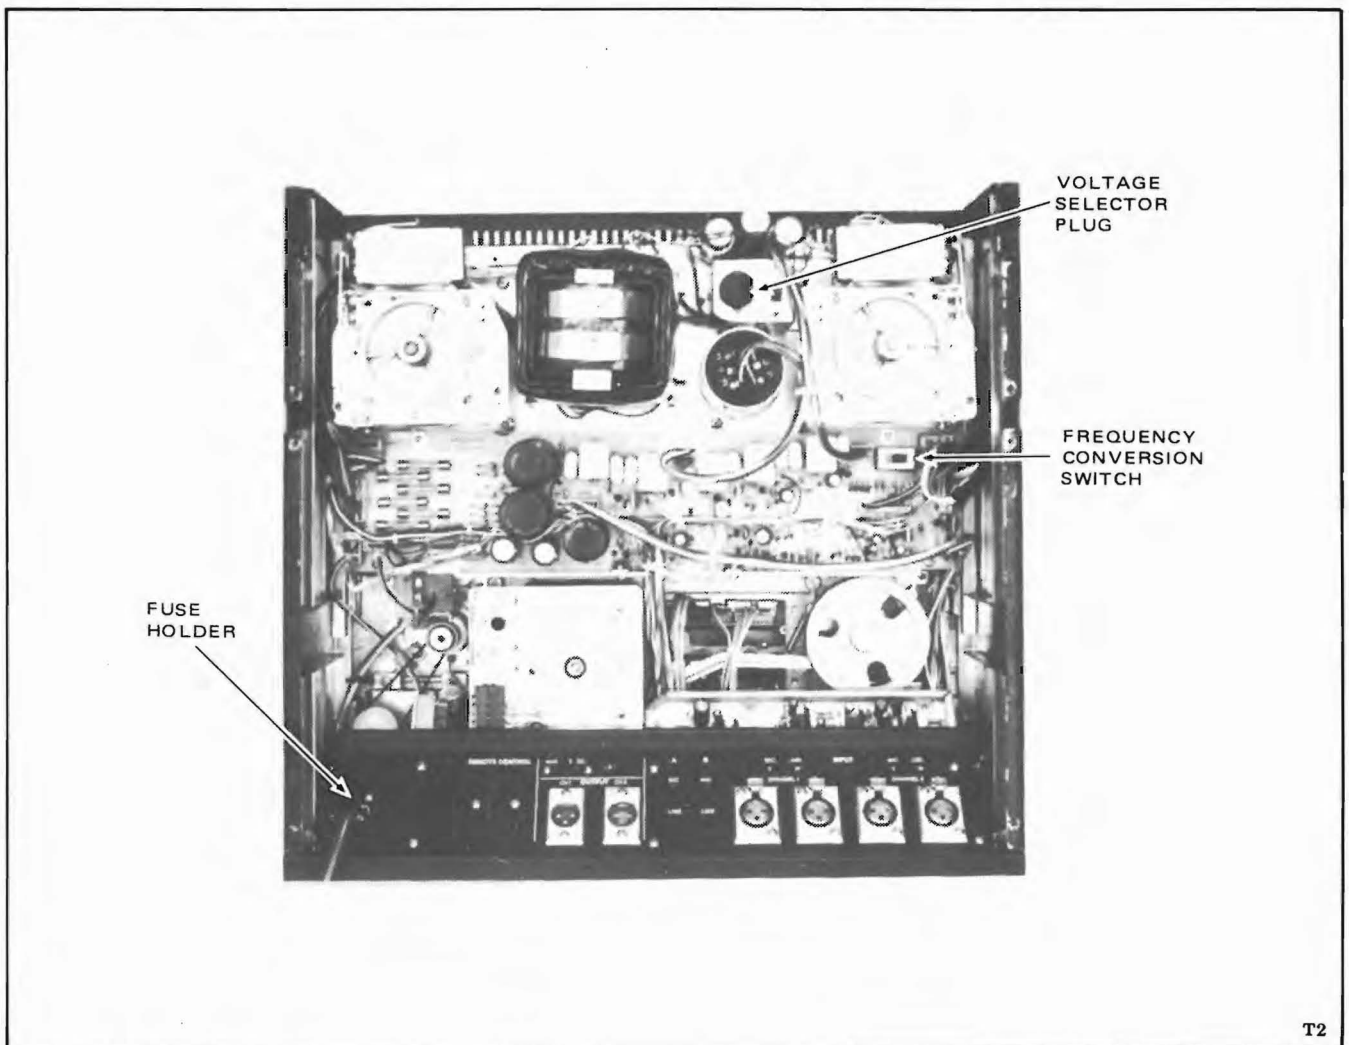
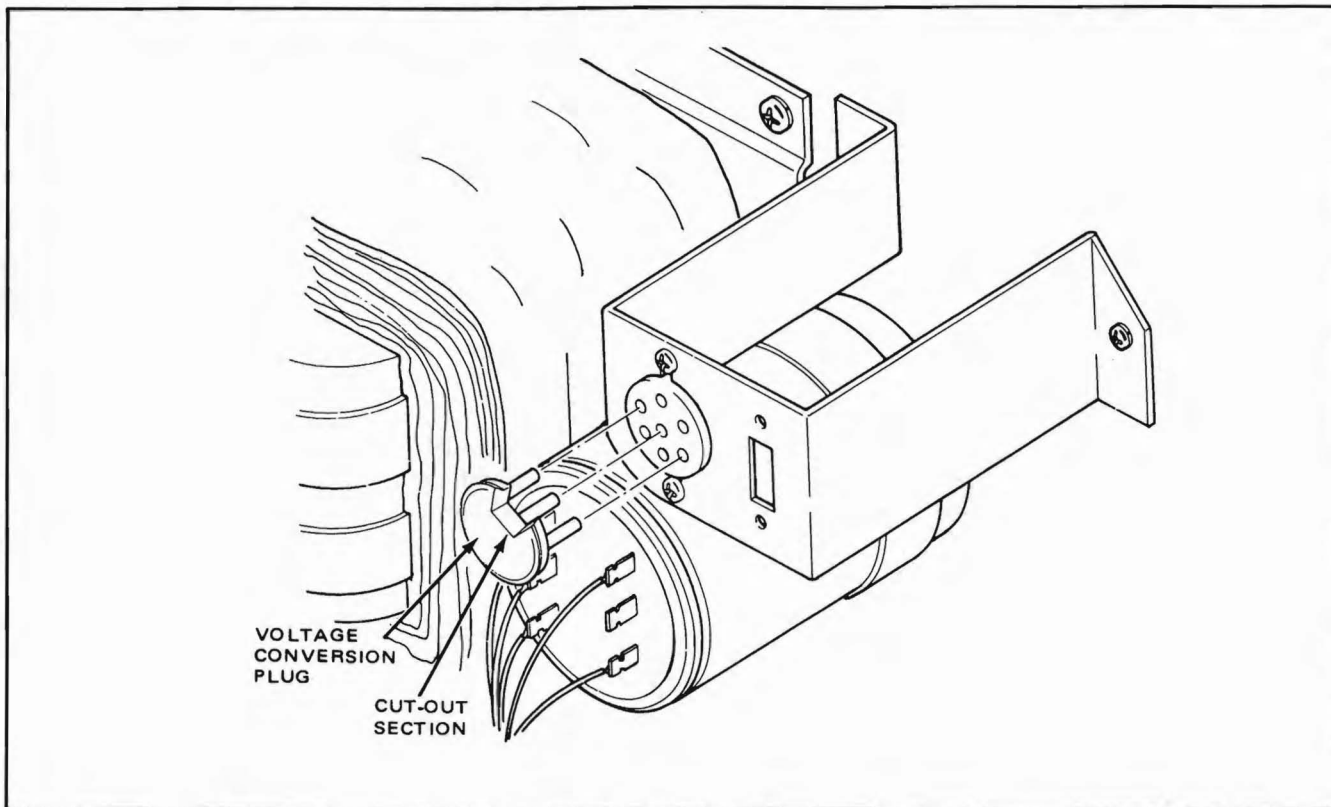
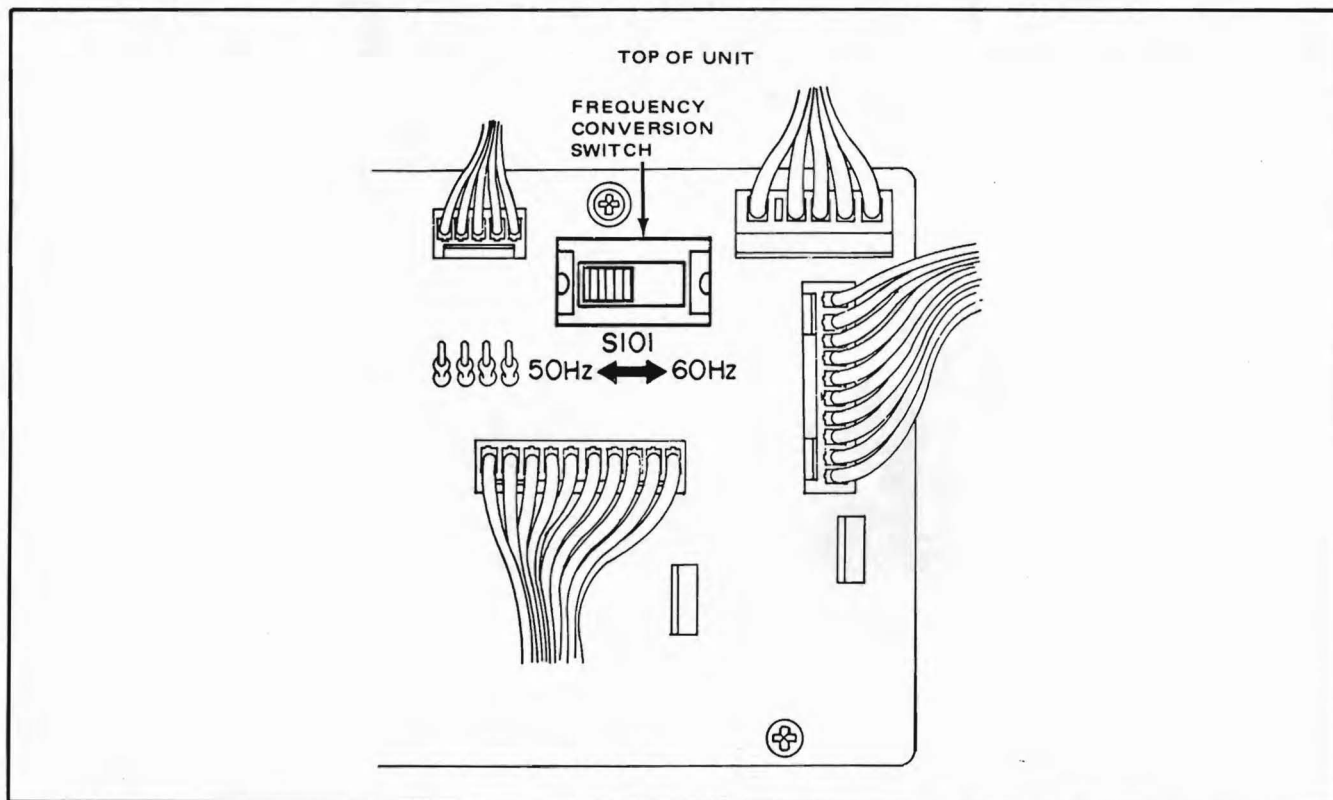

Figure 2-5. Voltage and Frequency Conversion
Figure 2-6. Voltage Conversion Plug
Figure 2-7. 50 Hz/60 Hz Frequency Conversion Switch
4. Locate the voltage selector plug just to the left of the supply reel motor as viewed from the rear of the deck (see Figure 2-5). Pull out to remove plug, and reinsert it so that the required voltage is indicated in the cut-out section of the plug (see Figure 2-6).
WHEN VOLTAGE SETTING IS CHANGED, BE SURE TO INSTALL A NEW FUSE OF MATCHING VOLTAGE AND CURRENT IN FUSE HOLDER SHOWN IN FIGURE 2-5.
5. Locate the frequency conversion switch just below the supply reel motor (Figure 2-5) and check that the selected frequency (50 or 60 Hz) matches the frequency of the power line at the installation site. If not, change the switch setting (shown in Figure 2-7) to correspond to the input line frequency.